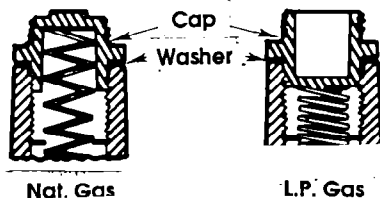

Figure 5
1. Remove the cap marked "NAT." and turn it over so it reads "L.P.". Then replace the cap. Do not disturb or remove the spring beneath the cap. Check that the fiber washer is between the cap and the body of the regulator. See Figure 5 for the correct position of the cap.